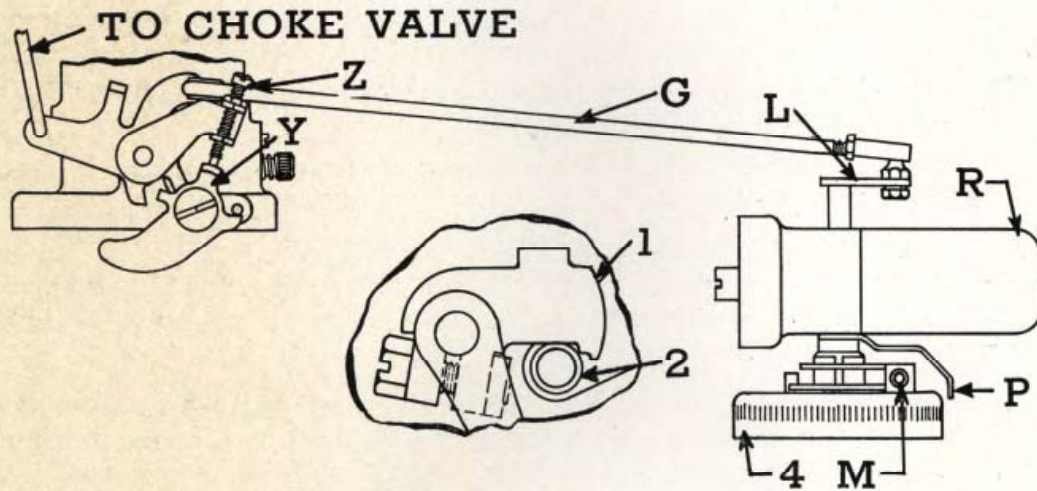

Fig. 12—Linkage Hookup of Automatic Choke on Twelve. Standard Setting is 16 Graduations on Housing "4" in the "Rich" Direction
1. Disconnect link "G," Fig. 12, and test operation of the choke valve. When fully closed by hand, it should drop open freely without the slightest lag. The weighted lever at one end of the choke valve shaft will assist the opening if properly positioned. If choke valve does not drop open freely, remove the choke valve and shaft and clean with alcohol and
3. With choke valve held in this closed position, move the thermostat lever "L" toward rear of car until roller "2" engages first notch of thermostat cam "1" as shown at the center view in Fig. 12. Now without moving roller out of notch in cam and with choke valve closed against paper, tighten the choke valve lever clamp bolt securely.